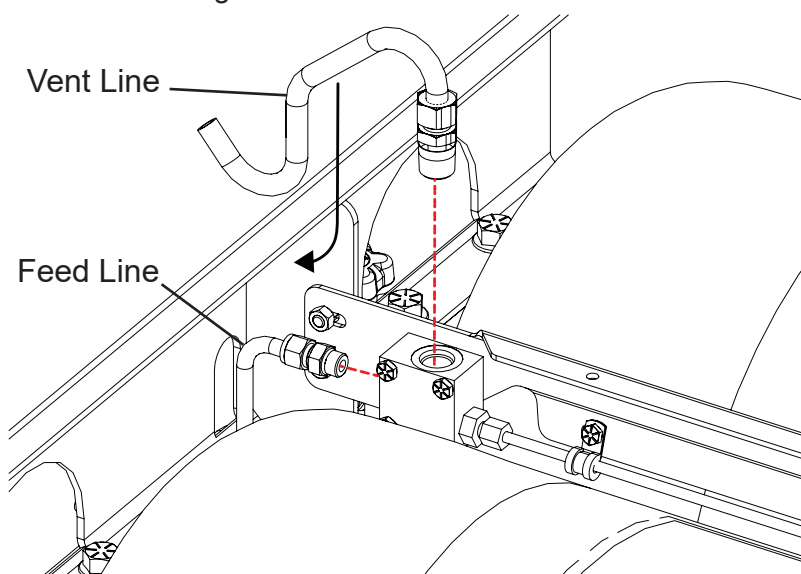

Figure 7: Disconnect the fittings from the PRD. The vent line can be removed from the assembly and set aside for later reconnection.
1. Disconnect the two fittings (feed fitting and vent fitting) from the PRD body (Figure 7). The vent fitting and the vent line can be removed from the assembly and set aside for reconnection. The feed line can dangle.